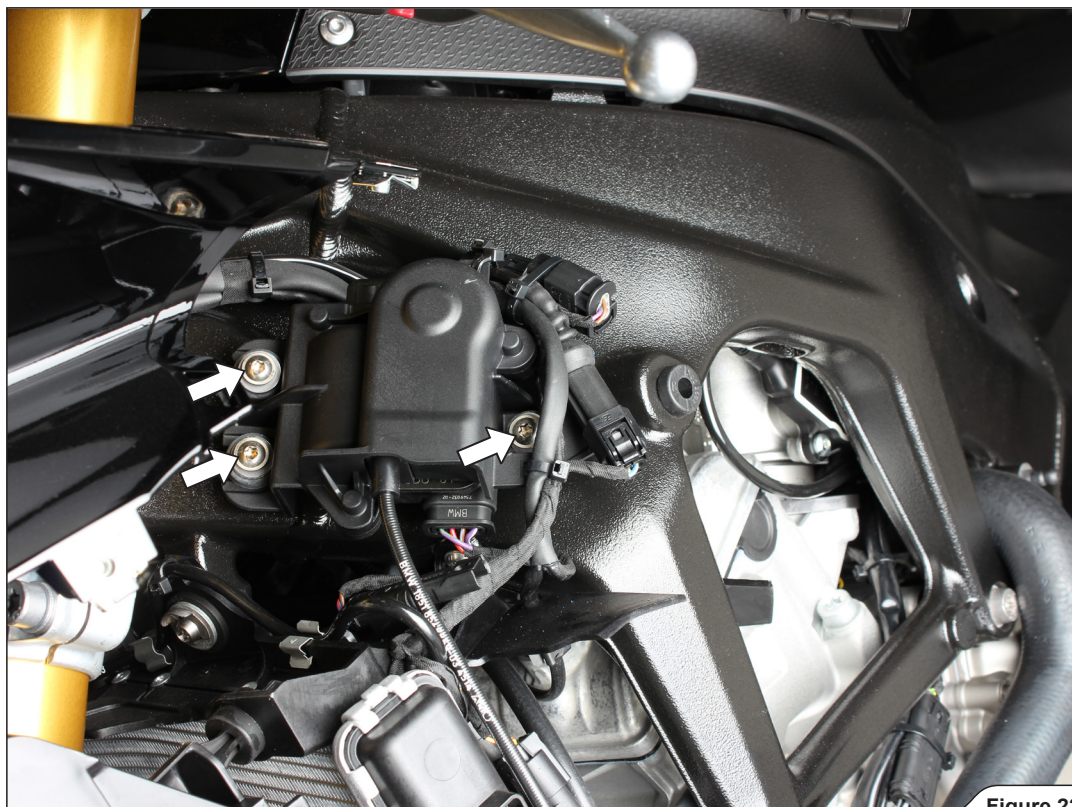

Figure 22
17. Unscrew the front exhaust valve's servo motor off the chassis (Figure 22).